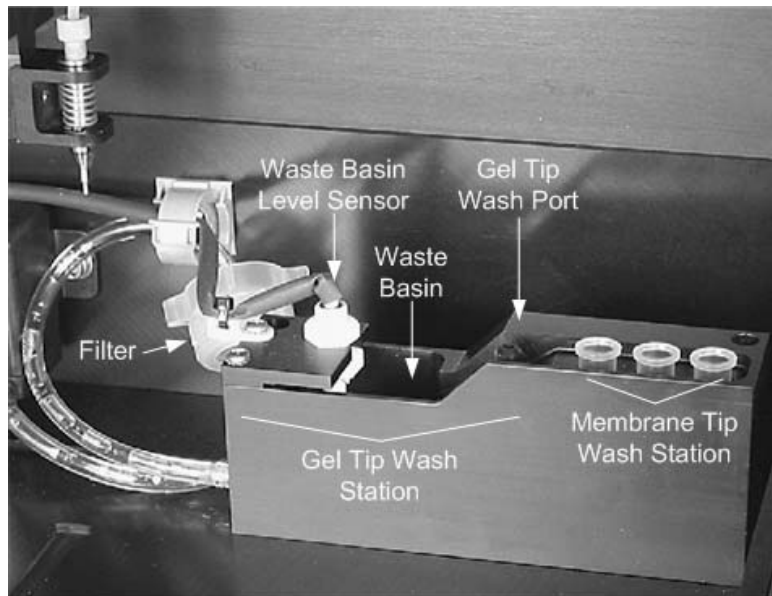

Figure 1-6. Wash station.
- *Waste pump.* The waste pump is used to pump waste from the wash station waste basin (see Figure 1-6) to the waste reservoir.